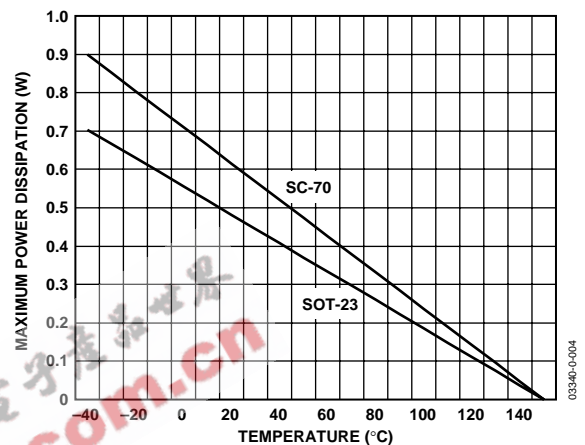

Figure 4. Maximum Power Dissipation vs. Temperature
2 SOT-23 values relate to the package being used on a 2-layer PCB and SC-70 values relate to the package being used on a 4-layer PCB. See Figure 4 for a plot of maximum power dissipation versus ambient temperature (TA).